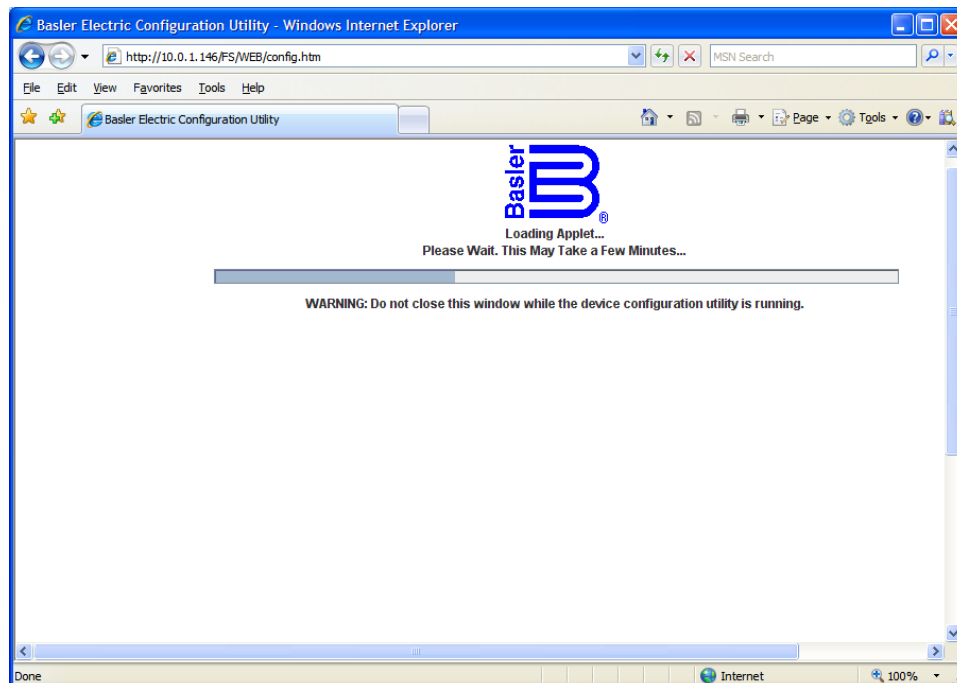

Figure 15-1. Launch Screen for BESTnet Configuration Applet (Internet Explorer)
6. If the computer has a compatible Java Runtime installed, the screen shown in Figure 15-1 should appear.